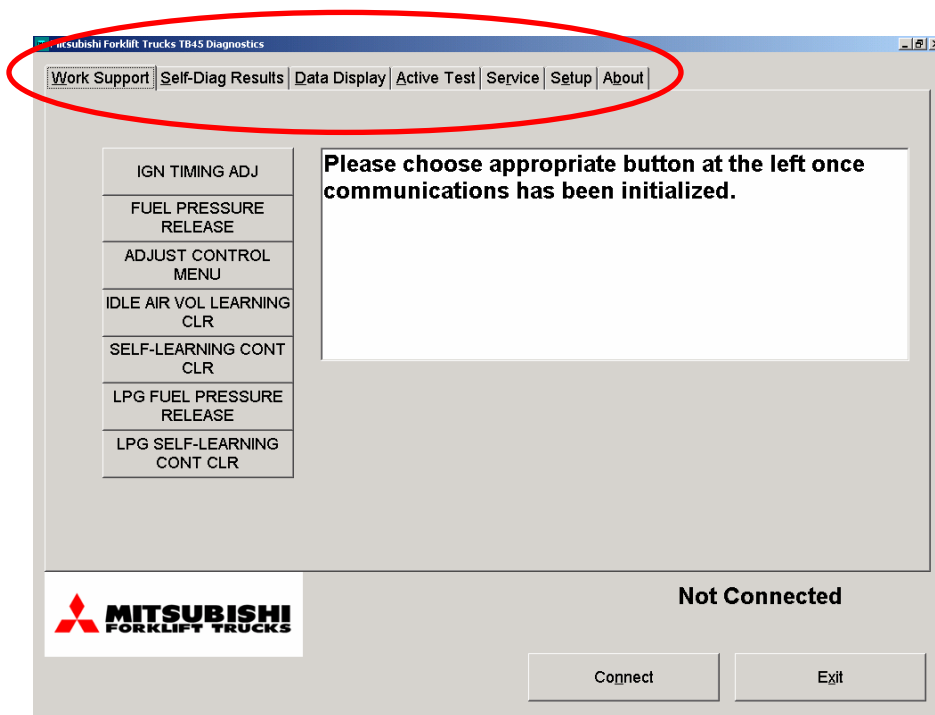

Figure 1.
1. – When you double click on the icon for this MIT TB45 diagnostics software the front window appears. Figure 1.